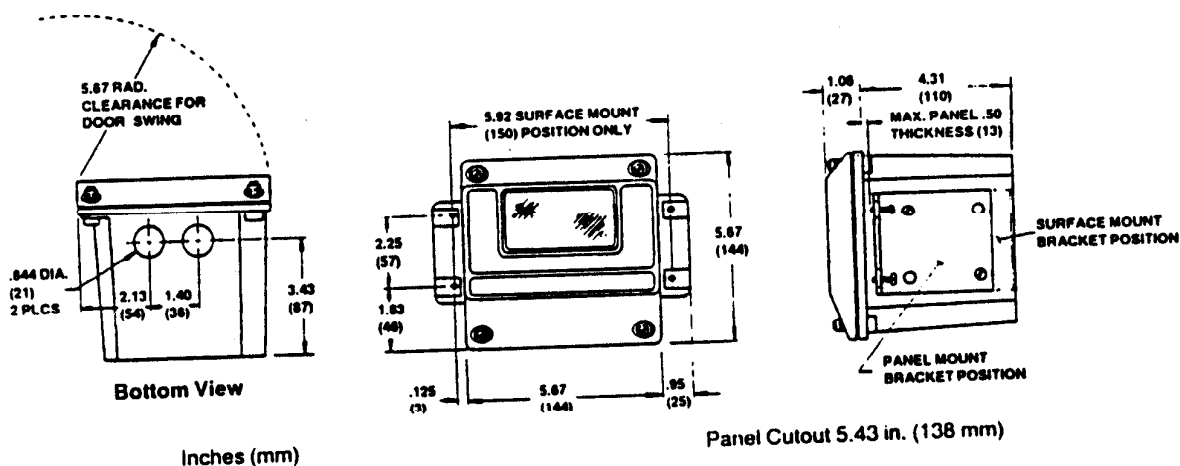
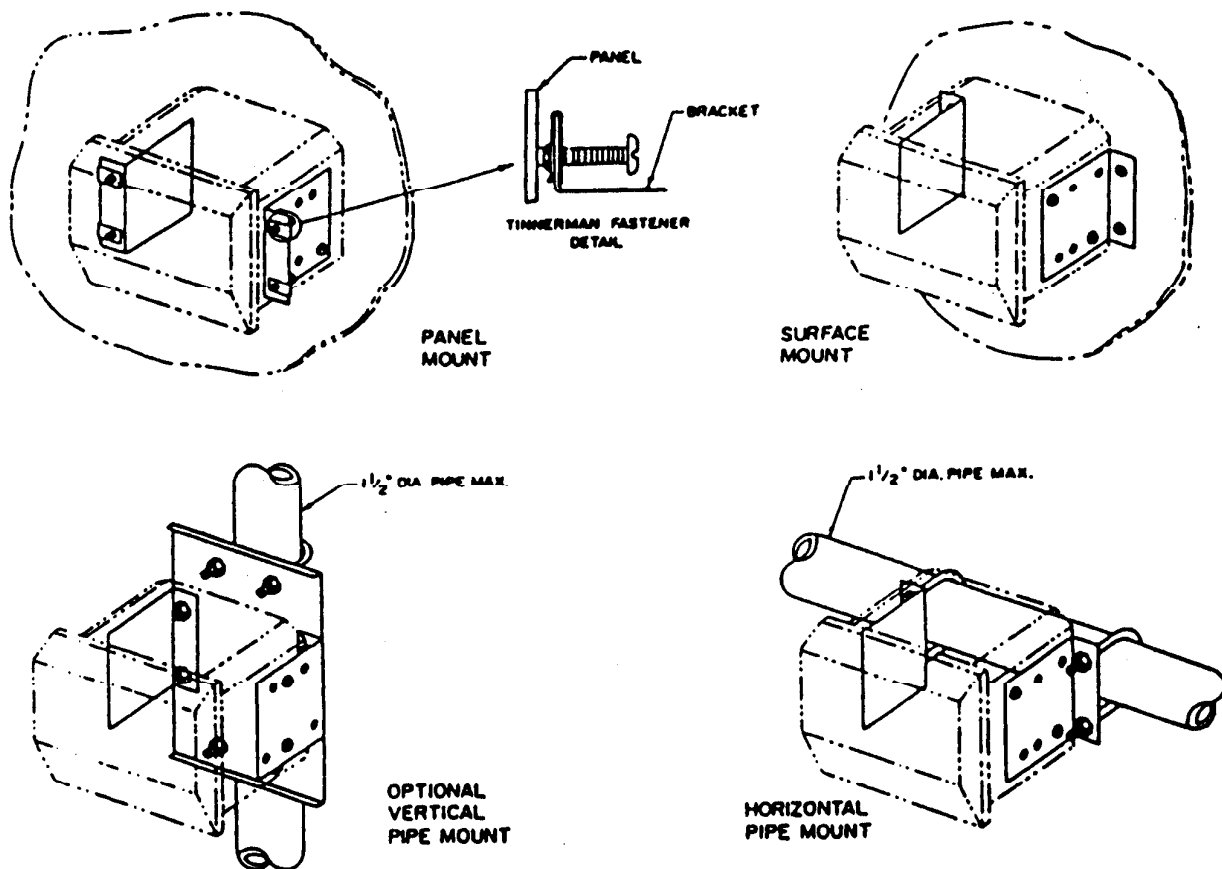

FIGURE 2-1 Enclosure Outline
FIGURE 2-2 Mounting Configurations
Refer to Figure 2-1 for enclosure and mounting dimension details. Figure 2-2 illustrates various mounting configurations. Use the two stainless steel brackets provided to panel, surface
1. Place Tinnerman fasteners on each mounting bracket as shown in Figure 2-2.
**NOTE:** Use appropriate mounting bracket holes (depicted in Figure 2-2 with screw heads) to properly position brackets.